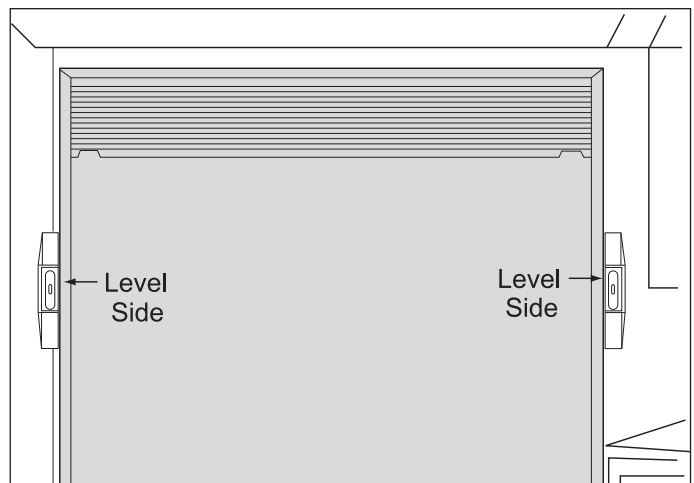

Figure 2-18.
5. Using a carpenter's level, check that each side is vertical. Shim as necessary (shims are not included). Next, secure top and bottom of each side trim to cabinetry using two 3/4" mounting screws (M). (See Figure 2-18).